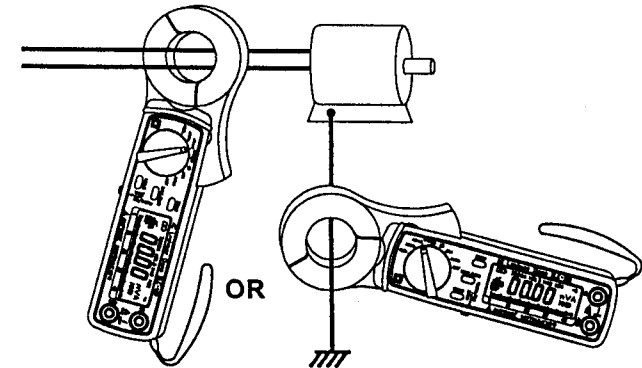

Fig. 4 Branch Circuit Leakage Current Measurement
3. Press the trigger to open the transformer jaw and clamp around the "Hot" and return conductor or the ground conductor only (see Fig.4). Make sure that the jaw is fully closed.